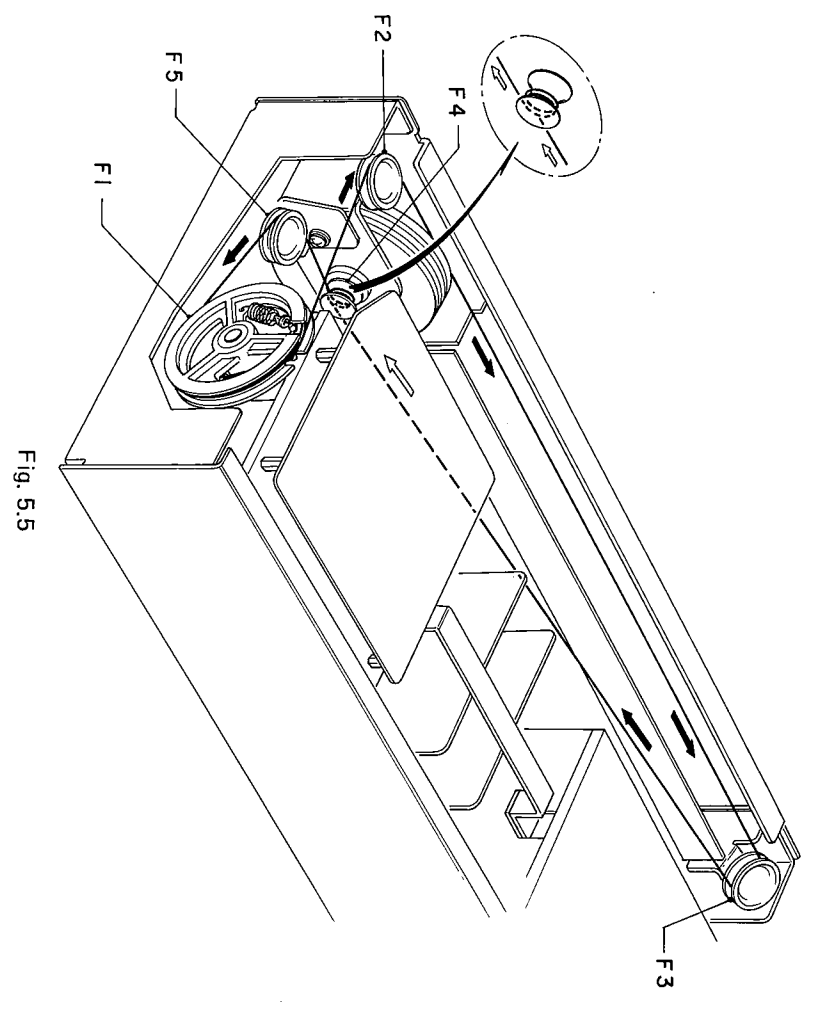

Fig. 5.5
(2) Referring to Fig. 5.5, wind the thread two turns on F4 (Tuning Shaft) by way of F2 and F3 (Guide Pulleys) in the direction from the Flywheel side to the Front-end, and wind the thread 1-1/2 turns on F1 (Front-end Pulley 430) from the under side of F1 by way of F5 (Guide Pulley).